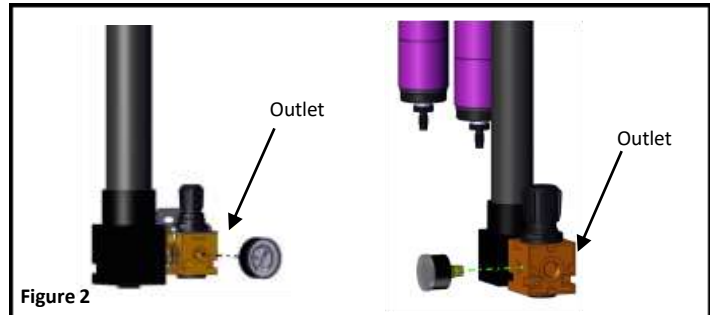

Figure 2
4. Install pressure gauge into regulator using appropriate thread sealant. *Figure 2*